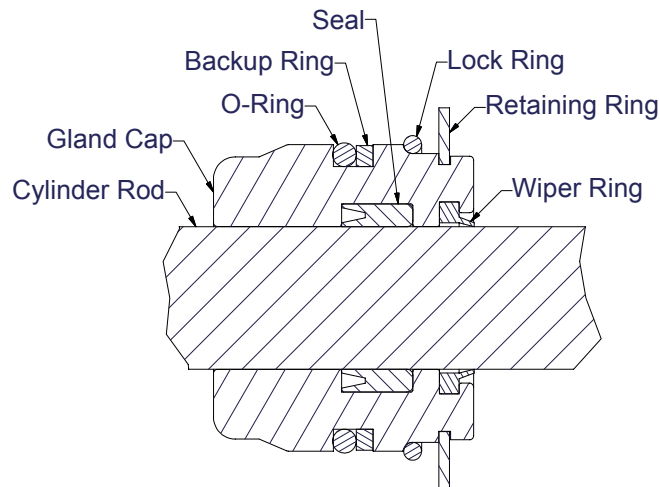

Figure 4-6, Gland Cap Seal
3. Install the seals and wipers in the gland cap. Note the direction of the seals. The cupped side or O-Ring side of the seal should be facing the piston. (Figure 4-6)